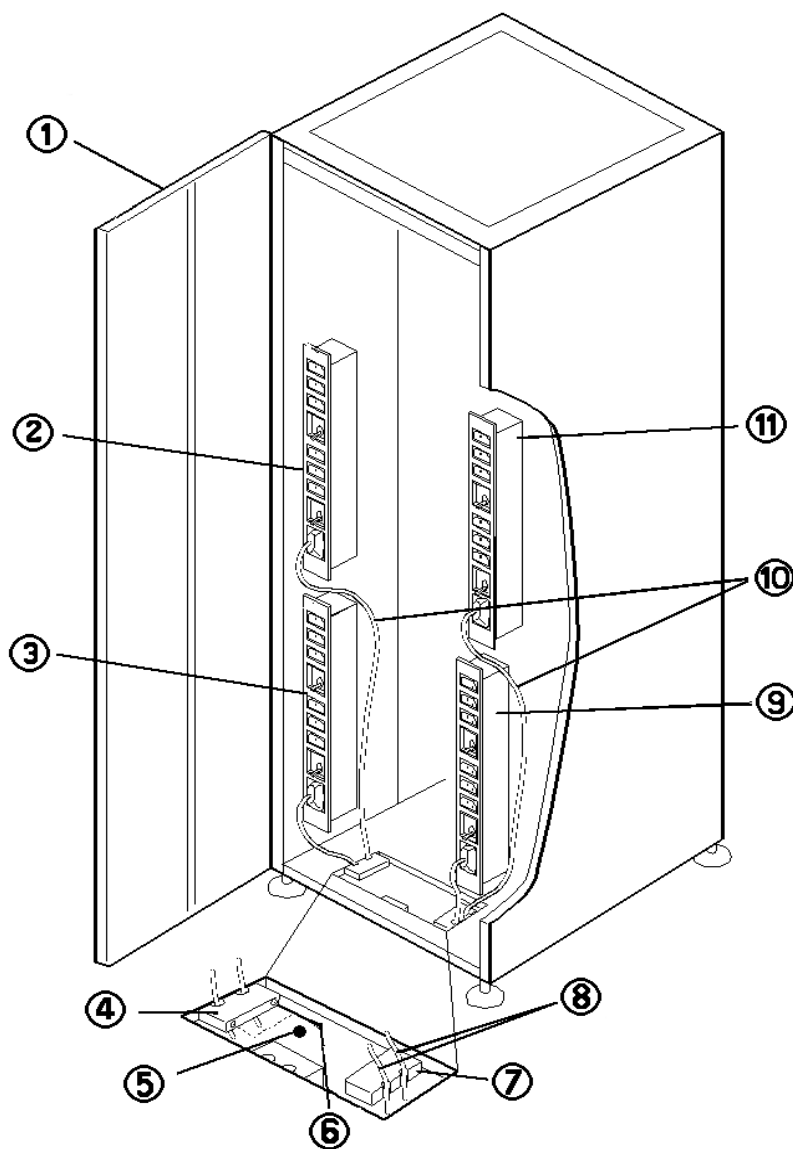

Figure 5-38: Connecting Power Cables (Rack PDB)
3. Recheck the power cable plug to make sure it is still secure in the PDB and that it has not become loosened during the cable routing. See Figure 5-38.